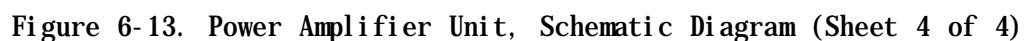

Figure 9-3 Power Supply Unit 2 Schematic Diagram (Sheet 1 of 2)
2. Add a jumper wire (36 inches) from J3, Pin 4, to Relay K4, Pin 3 (see attached Figure 9-3, page 9-6). Dress jumper wire along factory installed cabling.
- B. Schematics and/or Diagrams - Figure 9-3, page 9-6; and Figure 6-13, page 6-21/6-22.